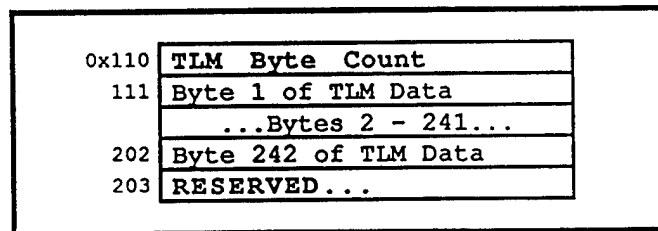

Figure 16: Type II Telemetry Interface
3.4.3.2 Type II Telemetry Interface The Telemetry Interface for Type II DUTs will start at location 0x110 of the 2k memory mapped interface. The communication synchronization will be accomplished by the interrupt line. When the DUT has data for the EPP to collect, it will assert the interrupt line. The EPP will then collect the data stored in the DUT's telemetry area. No additional data may be written by the DUT until the EPP clears the interrupt indicating it has read all the data. Due to downlink formatting the TLM data will be limited to 242 bytes of data per interrupt (see Figure 16).